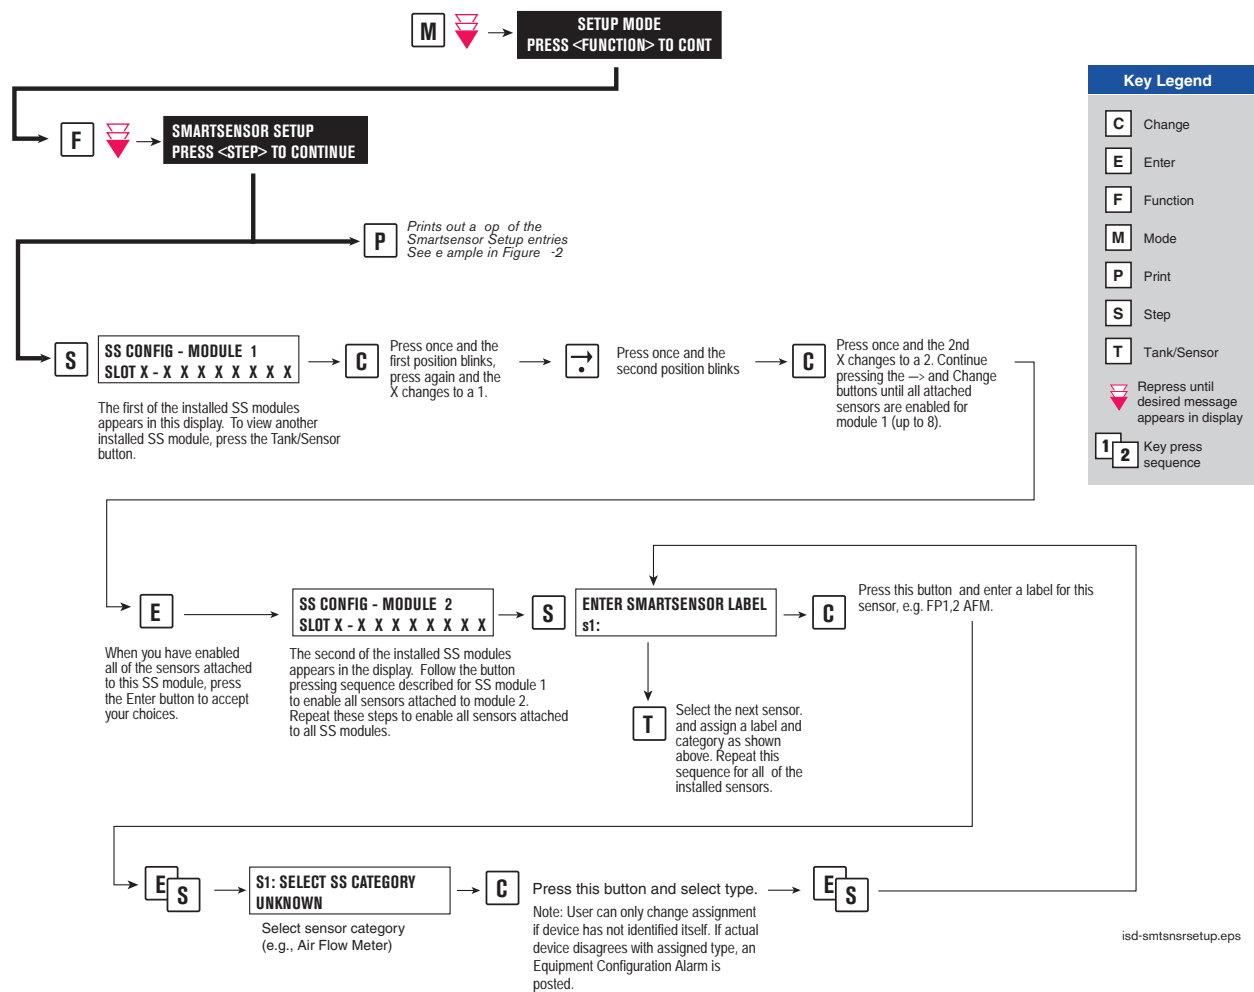
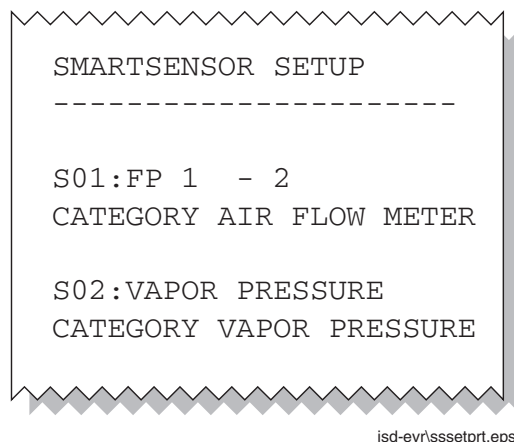

Figure 3-1. Smart Sensor Setup
Figure 3-2. Smart Sensor Setup Printout Example
- Smart Sensor Setup - All ISD sites - Figure 3-1
The Smart Sensor Interface Module is installed in the Intrinsically-Safe bay of the TLS console. This module monitors Air Flow Meters and the Vapor Pressure Sensor. Figure 3-1 diagrams the Smart Sensor setup procedure. Figure 3-2 shows a printout of the Smart Sensor setup.